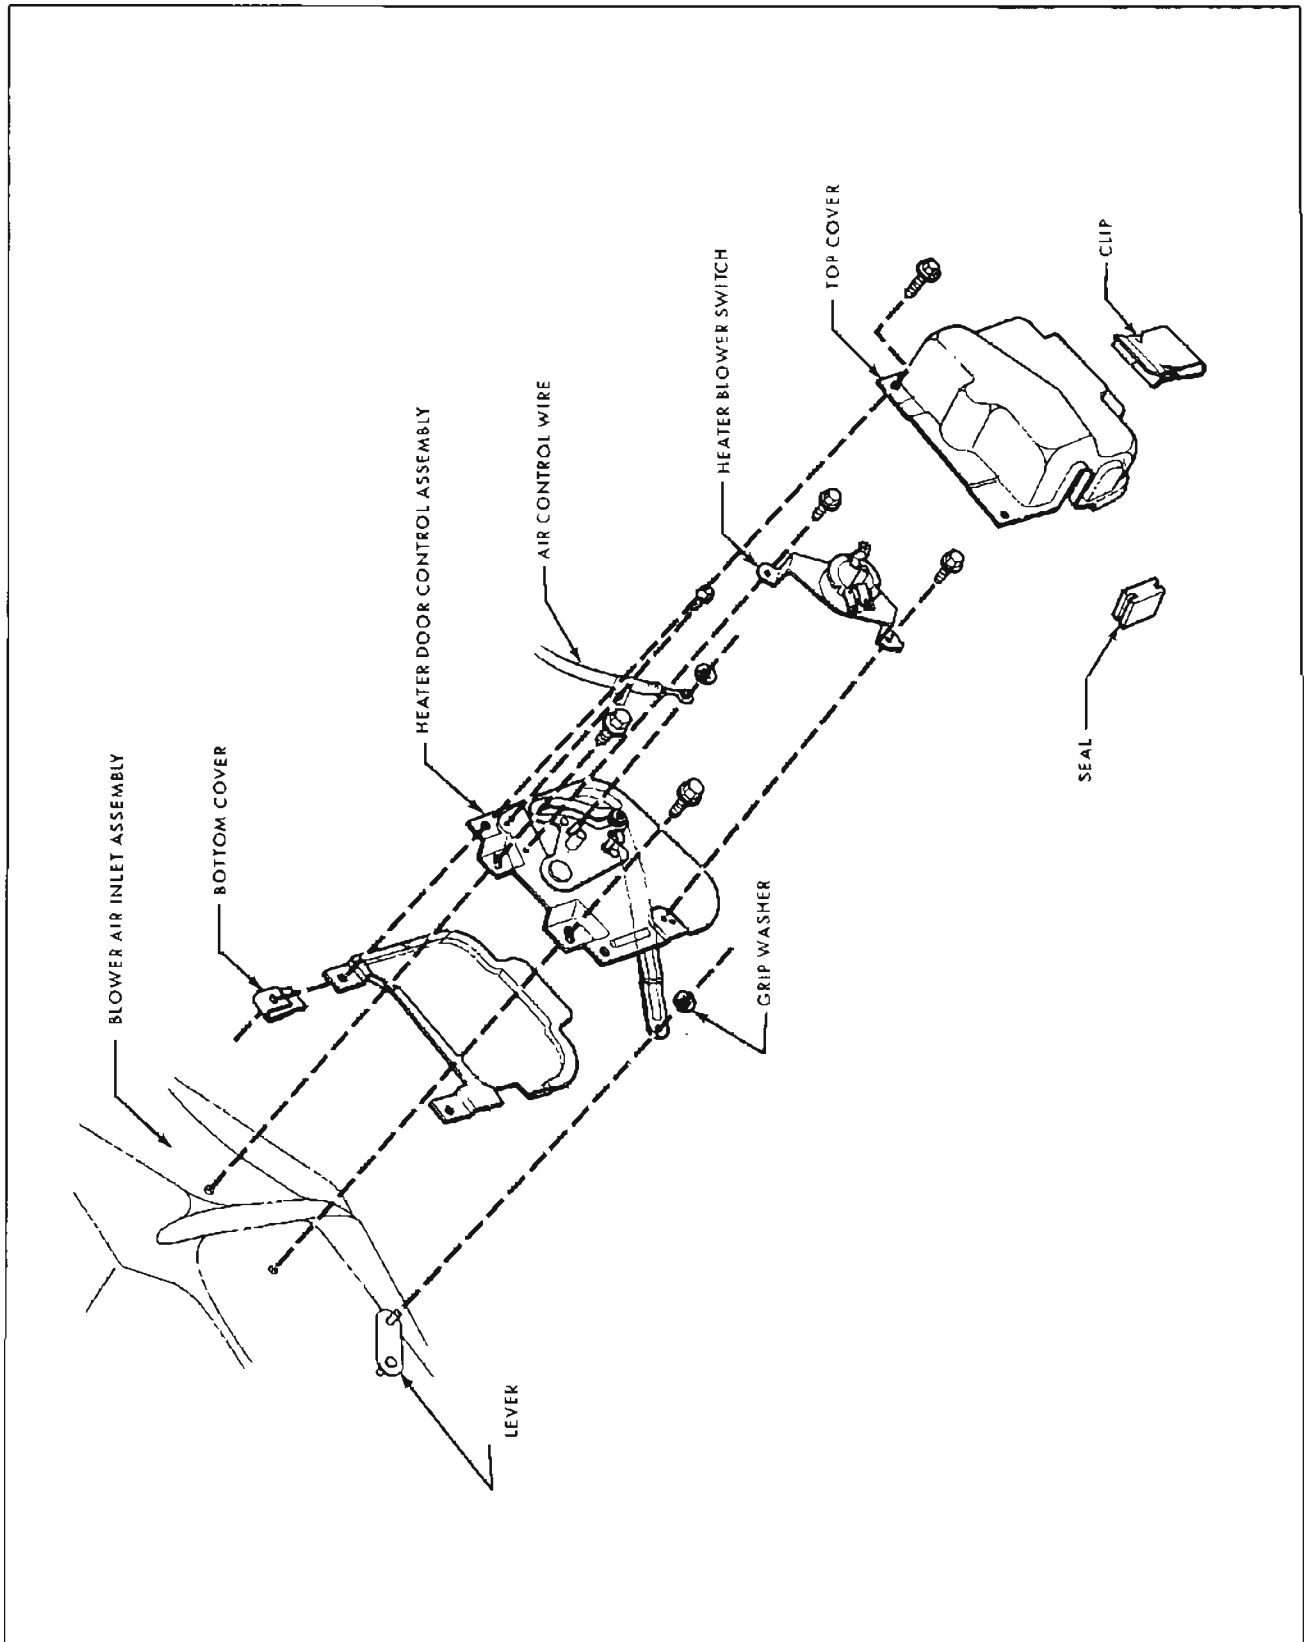

Figure 11-36—Heater Door Control Assembly - 4400, 4600 and 4800 Series
The heater door control assembly (see Figure 11-36) actually performs the afore mentioned functions. The unit is located on the blower and air inlet assembly and is directly linked to the outside air door. In addition, the unit houses the heater blower switch. A control cable directly connects the heater door control assembly to the AIR lever.
2. Remove top cover (see Figure 11-36) from heater door control assembly and disconnect air control wire.
<p>4400, 4600 &amp; 4800 Series</p> <p>1. Blower motor inoperative.</p> <p>2. Insufficient heating.</p> <p>3. Inadequate defrosting.</p>	<p>1a. Check fuse. .</p> <p>1b. Check for defective heater blower switch (see Figure 11-36).</p> <p>1c. Check motor ground wire (see Figure 11-32).</p> <p>1d. Check for defective blower resistor assembly (see Figure 11-32).</p> <p>1e. Check for loose connectors or broken wires.</p> <p>2a. Check operation of outside air door (ref. subpar. 11-7, "a" and "c"), temperature door, and rear heat door to insure full opening and closing.</p> <p>2b. Check for air leaks around sealing edges of components.</p> <p>2c. Check for insufficient coolant.</p> <p>3a. Check operation of outside air door (ref. subpar. 11-7, "a" and "c"), temperature door or defroster door.</p> <p>3b. Also refer to above corrections 2b and 2c.</p>